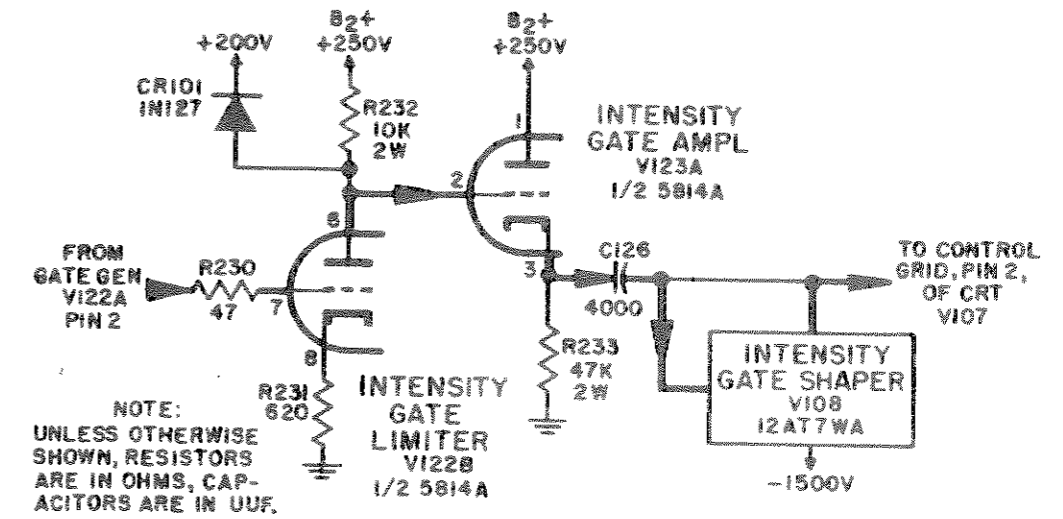

Figure 2-14. Intensity Gate Amplifier, Simplified Schematic Diagram.
c. INTENSITY (Z AXIS) CHANNEL (See figure 2-14 and 2-15)
(1) INTENSITY GATE CIRCUITS - The intensity gate circuits increase the brightness of the crt display only during the forward trace of the sweep. The increase in intensity is necessary to maintain constant brightness level during sweep time and also to eliminate the return trace. The circuit includes Intensity Gate Limiter V122B, one-half 5814A and crystal diode CR101, Intensity Gate Amplifier V123A, one-half 5814A, and Intensity Gate Shaper V108, 12AT7WA. V122B is normally conducting and maintains a voltage drop across its plate load resistor R232 large enough to